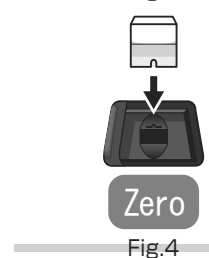

Fig.4
4. Put the Cell in the cell box and press **[Zero]**. (Fig.4)